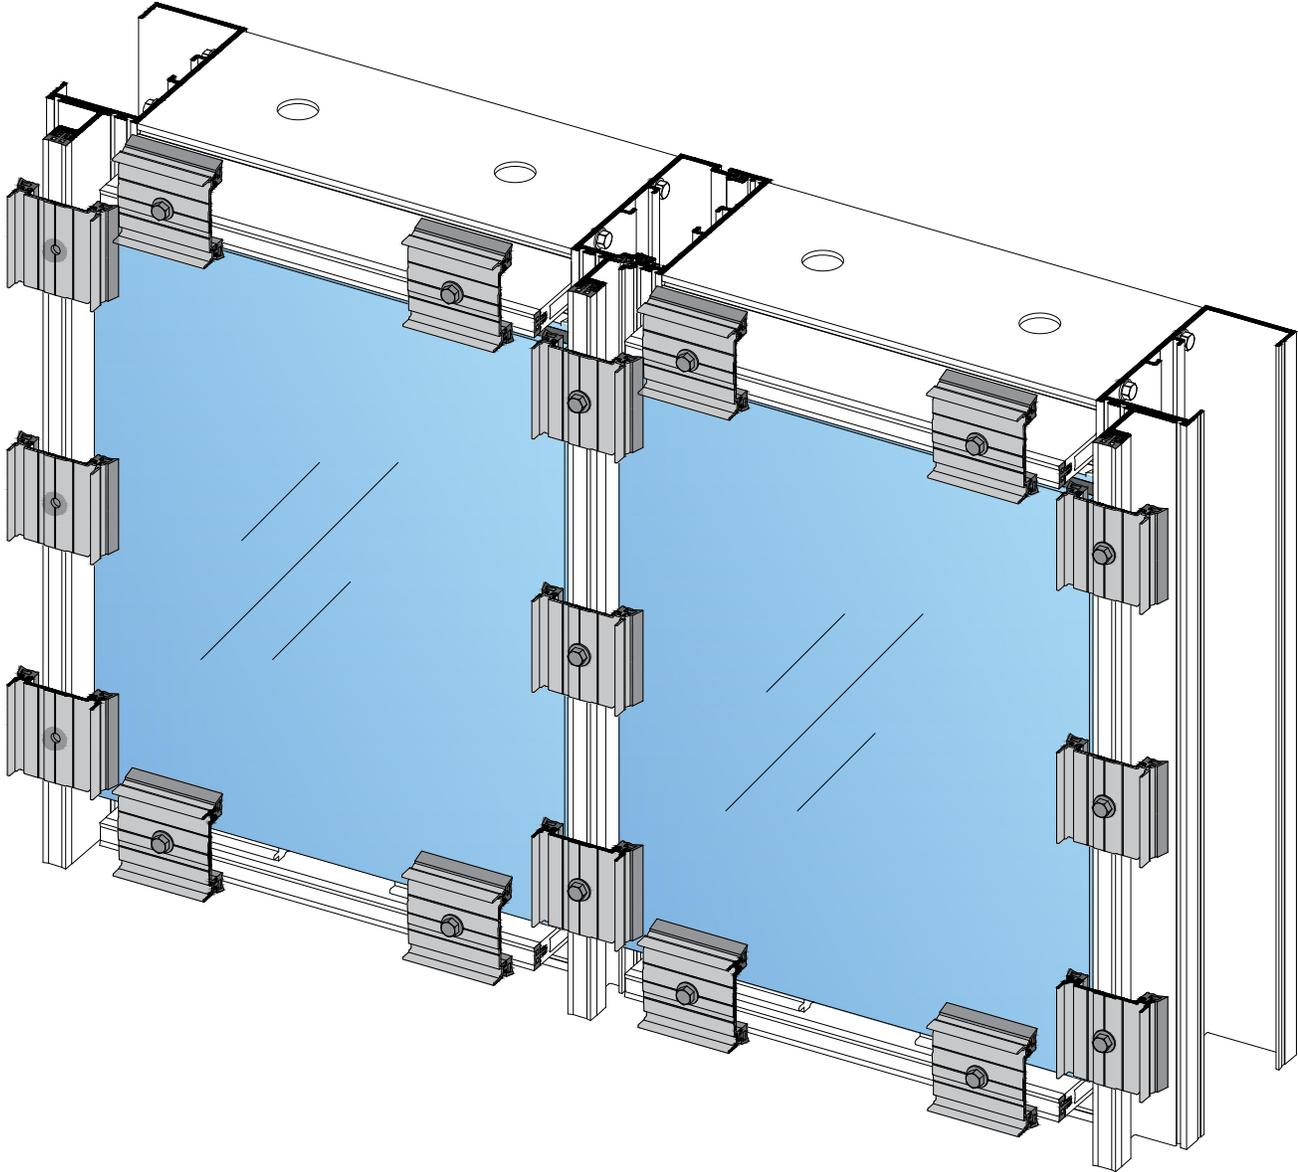

Fig. 60.1
- I. For SSG applications, tape off the side of SSG mullion and glass prior to applying structural silicone. See Fig. 60.1. After structural silicone has cured per silicone manufacturer's recommendations, remove the temporary glazing retainers and apply a weather seal between the lites of glass. See Fig. 60.2.